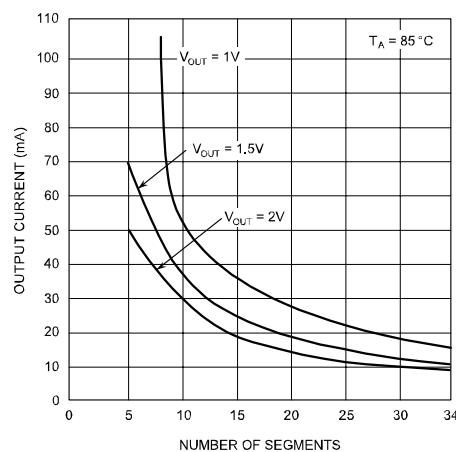

Figure 7.
3. See Figures 7, 8 and 9 for recommended operating conditions and limits. Absolute maximum for each output should be limited to 40mA.